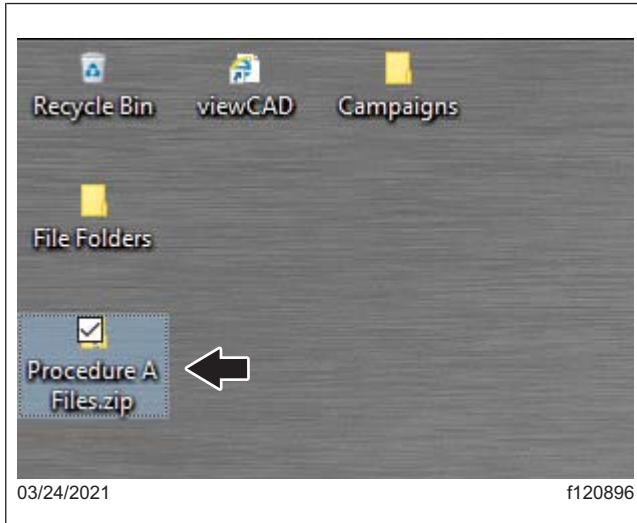
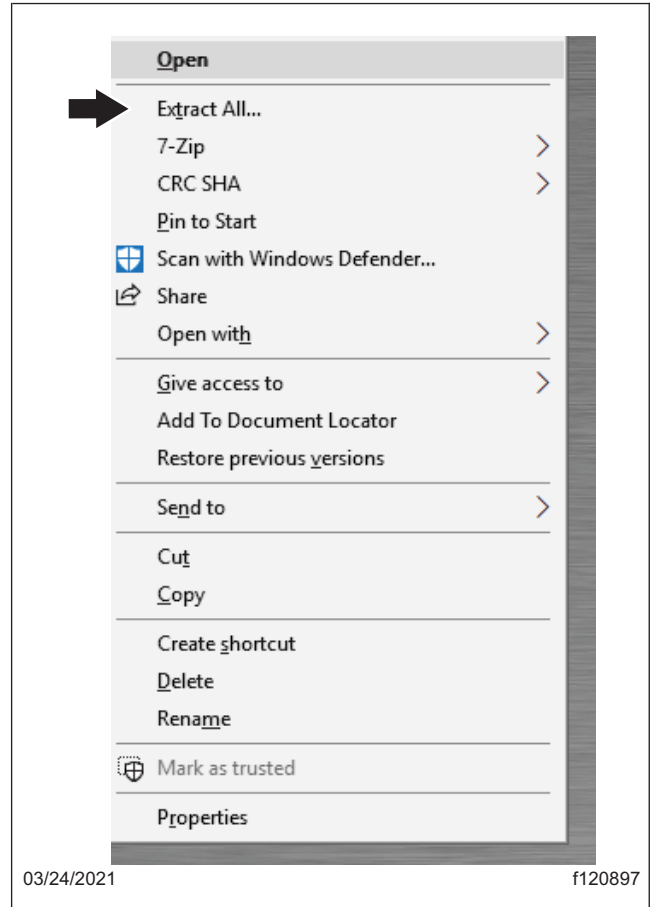

Fig. 6, Procedure A File on the Desktop
Fig. 7, Selecting Extract All
9. Navigate to the desktop and find the file named 'Procedure A Files.zip.' Right click on the file and select 'Extract All...' See Fig. 6 and Fig. 7.